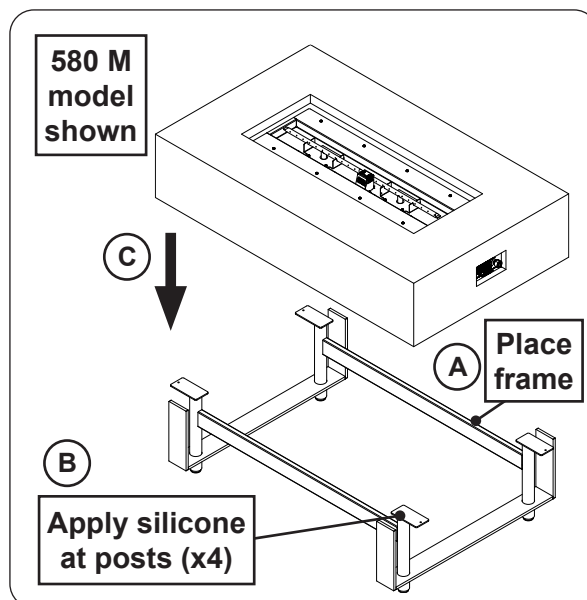

Fig. 32-1 Place unit
1. **CAREFULLY** set the top/main unit aside and locate the metal frame where desired (see Fig. 32-1, A, and refer back to the LOCATION section if needed).